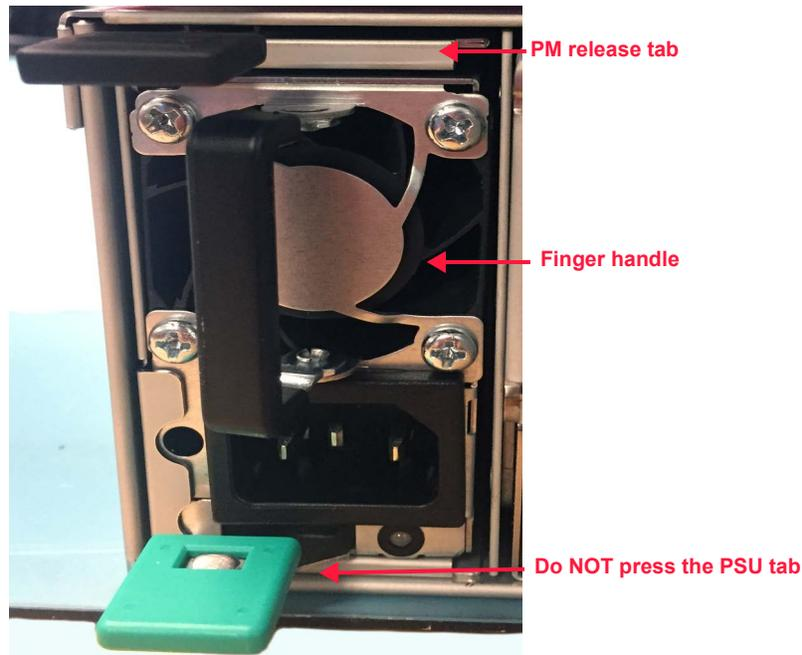

Figure 4.7 PM removal
2. Push the PM release tab downwards in the direction of the finger handle while simultaneously pulling the finger handle outward to disengage the PM cam. Figure 4.7 identifies the release tab and finger handle. Do NOT press the PSU tab below the finger handle.